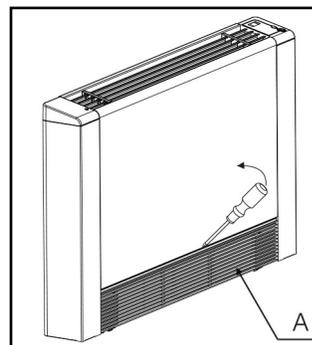

Figure 22 - Opening the Grill
1. Open the grill at the fan coil. Using a flat head screwdriver to gently pry the top of the grill may aid in this process. See Figure 22.